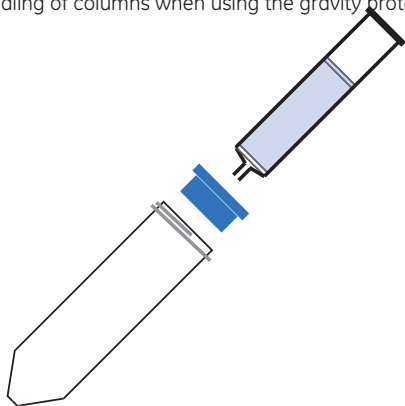

Fig 1. Assembly of column, adapter and collection tube.
For use in the spin protocol the PD-10 Desalting column should be assembled with adapter and collection tube as shown in Fig 1.
- Put the PD-10 Desalting column into a 50 mL collection tube by using the column adapter, see Fig 1